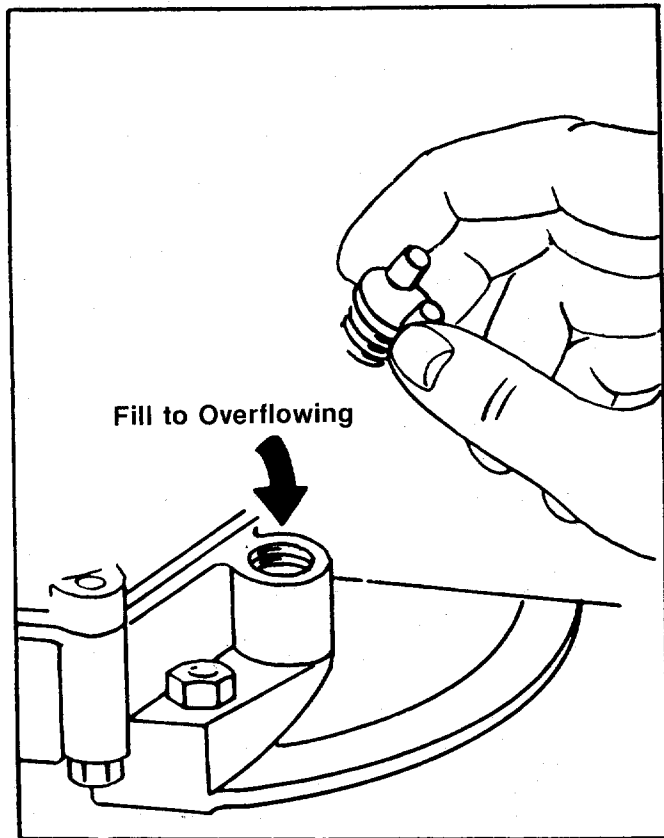

FIGURE 16. OIL FILL
Check the oil level in the crankcase before each use of the machine and after every two hours of operation. Keep the oil level to the overflowing point. See figure 16.
- Step 3. With the machine on level ground, remove the oil filler plug. See figure 16. Fill the crankcase until the oil overflows from the oil fill hole. Fill slowly to avoid air locks. The crankcase holds approximately 1 $\frac{3}{4}$ pints of good quality SAE 30 type MS engine oil. Replace the oil filler plug.